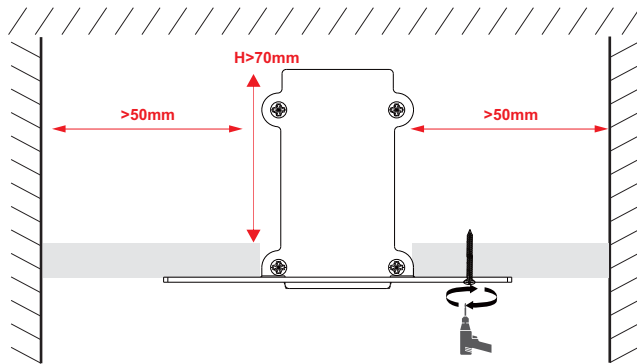

Figure 17
2. Push the LAA-REC-TR01 into the mounting surface until it is secured. Fix the rail by applying screws onto the bars and remove potential gap. Make sure the clearance of the rail is of height $>70\text{mm}$ and width $>50\text{mm}$ (Figure 17).